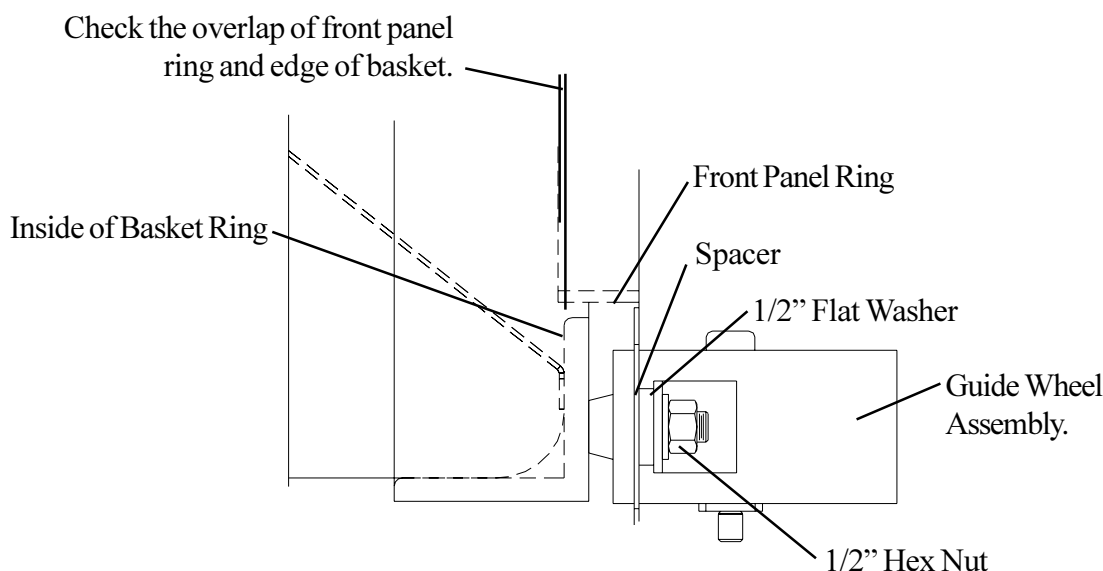

FIGURE -3A
STEP 2: Check alignment of the inside of basket ring and the front panel ring. The front panel ring edge should be even or slightly past the inside of basket ring (See Figure-3A). If guide wheel adjustment is fine than go back to *Basket Alignment Directions*. If the inside of the basket ring is past the end of the front panel ring then the guide wheel assembly is in to far and needs to have a spacer(s) removed. If the edge of the front panel ring is past the inside of the basket ring more than a quarter of an inch the basket may be to close to the front panel. The guide wheel needs a spacer(s) added. **If the inside of the basket ring is to far out past the front panel ring, garments could get caught between the basket and the front panel.**